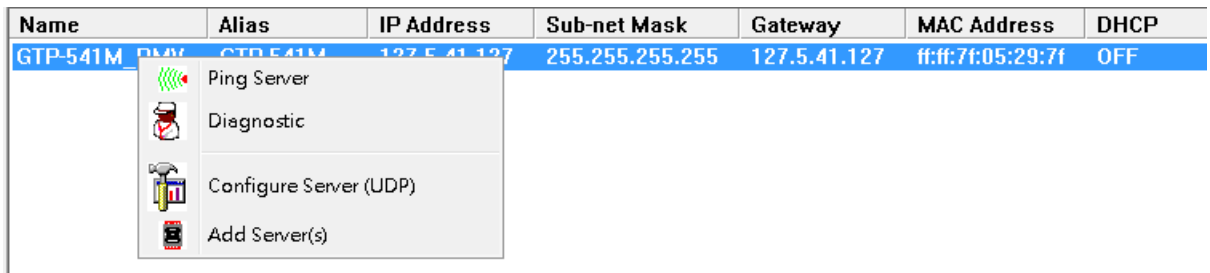
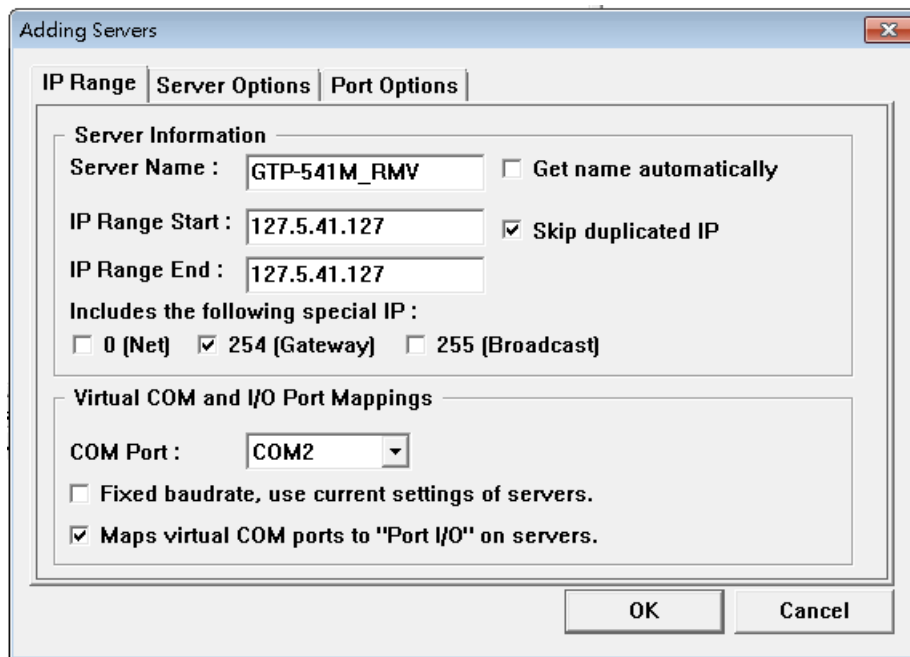

Figure 7.10.14
Figure 7.10.15
- G. Right click on GTP-541M and select "Add Server" as shown in Figure 7.10.14. After clicking, the Adding Servers window will appear as shown in Figure 7.10.15. In this window, select "COM Port" in the Virtual COM and I/O Port Mappings block. And "check below" Maps virtual COM ports to "Port I/O" on servers.